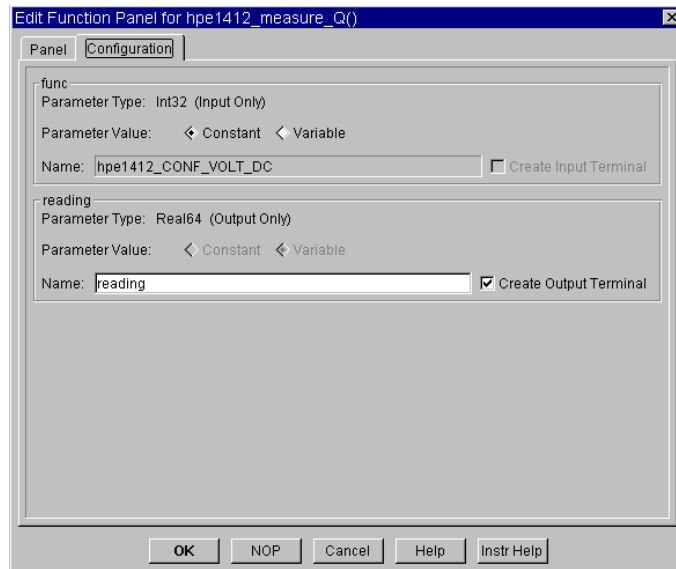

Figure 3-33. Configuration Folder in Edit Function Panel
9. In the To/From Instrument object, double-click to add a function and select Take Measurement under Measure. Click on the Configuration folder to display the dialog box shown in Figure 3-33.